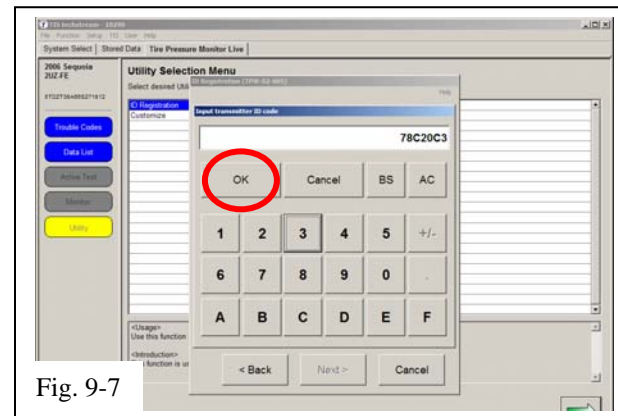

Fig. 9-7
- (j) Input the TPMS ID code then click OK. Repeat the same procedure for all other TPMS ID codes. (Fig. 9-7)